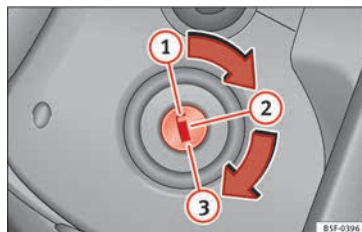

Fig. 199 Vehicle key positions
Vehicle keys » Fig. 199
3.	Only in vehicles with diesel engines: for preheating, turn the key in the ignition lock to position »» Fig. 199 ②. A control lamp lights up on the dash panel ☹.